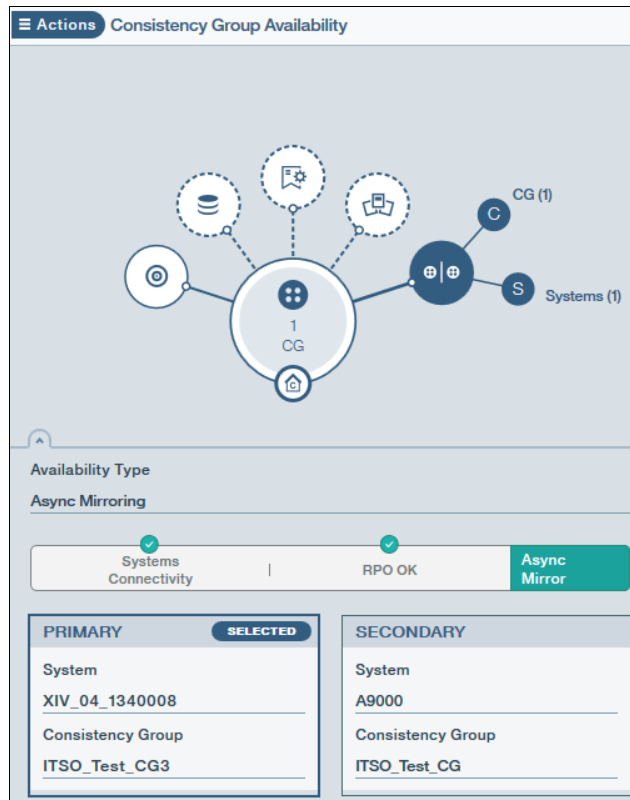

Figure 4-39 Switched roles
- Click **Apply** to switch the roles, which shows the switched role status, as shown in Figure 4-39.